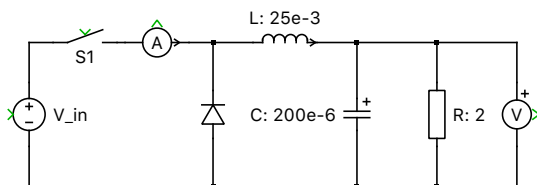

Figure 10: Electrical part of the buck converter
- 2** Build the rest of the electrical part of the buck converter, as shown in Fig. 10.
- 1 After completing the circuit shown in Fig. 10, select all the components (either by clicking an empty space in the upper left corner of the schematic and dragging a frame to the lower right corner, or by using the keyboard shortcut **Ctrl-A**).